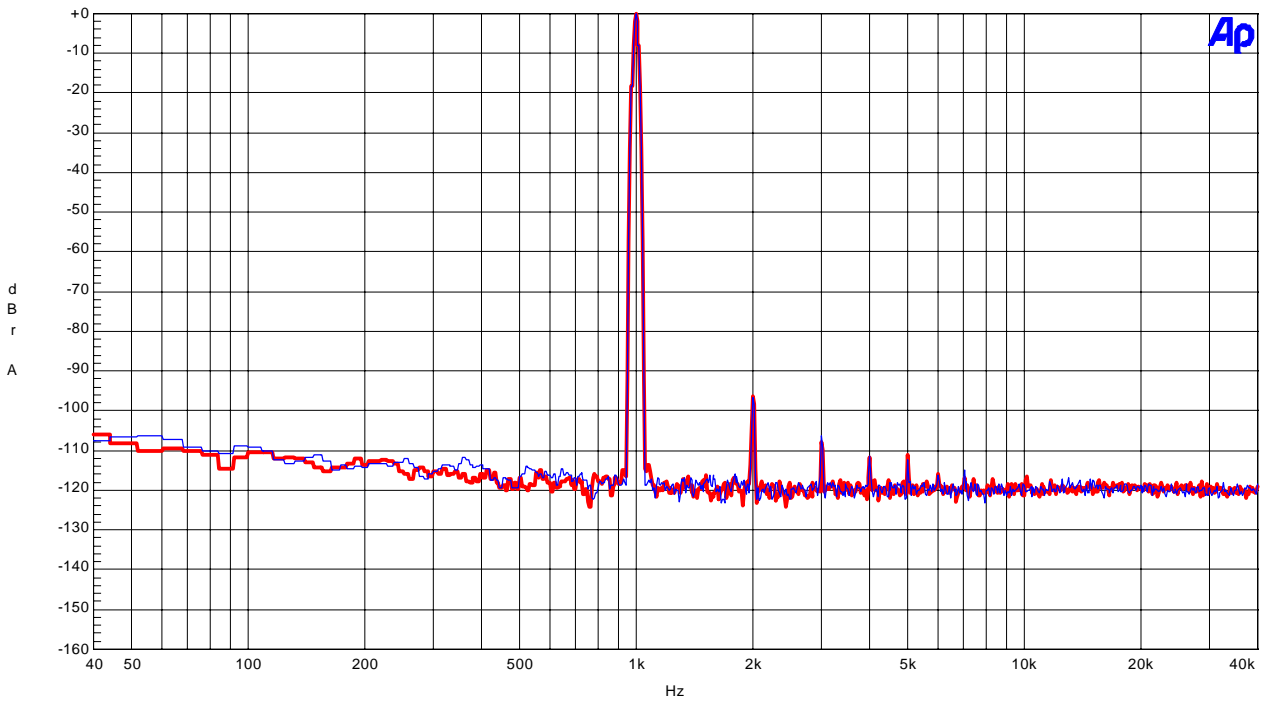

Figure 10. FFT (1kHz, 0dBFS input)
- Figure 10. FFT (1kHz, 0dBFS input)